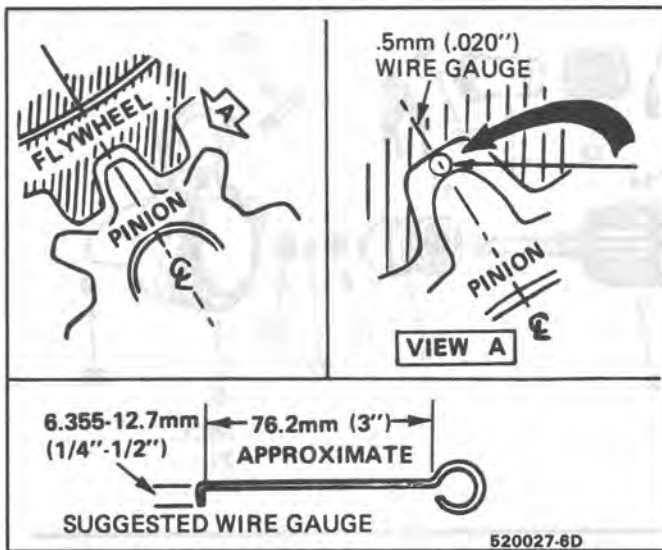

Fig. 3 Flywheel to Pinion Clearance
- d. Check pinion to flywheel clearance, as shown in Fig. 3, by using a wire gage of .5mm (.020") minimum thickness (or diameter). Center a pinion tooth between two flywheel teeth and gage, as shown in Fig. 3. Do not gage in the corners, where a misleading larger dimension may be observed. If the clearance is under this minimum, shimming the starter away from the flywheel is required.